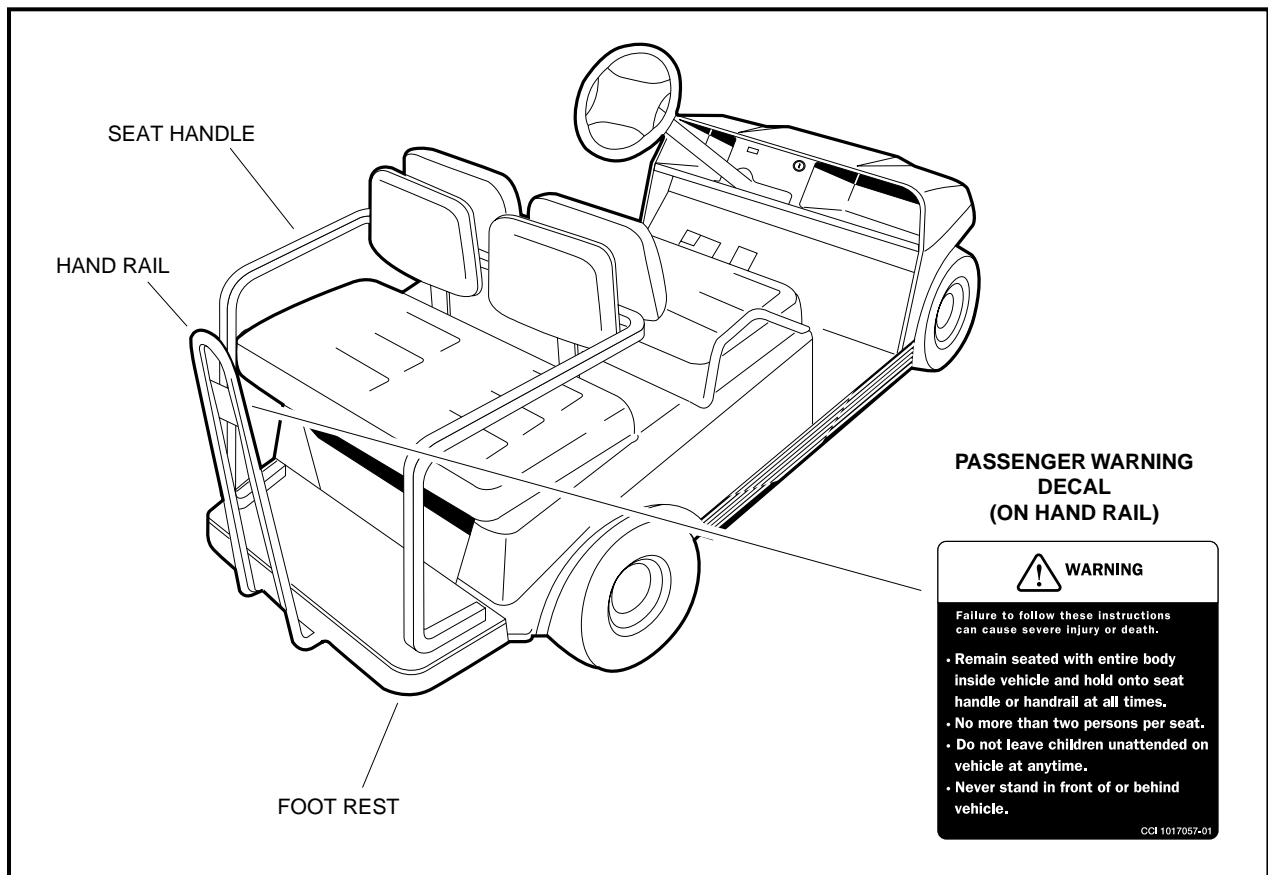

Figure 21 Fairway Villager
- PASSENGERS SHOULD HOLD ON TO SEAT HANDLES OR HAND RAILS AT ALL TIMES (FIGURE 21, PAGE 29). DRIVER SHOULD KEEP BOTH HANDS ON THE STEERING WHEEL WHILE VEHICLE IS MOVING.